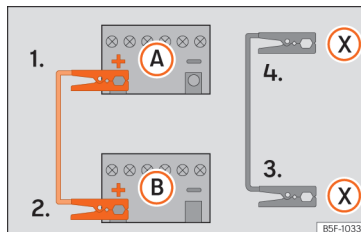

Fig.79 Diagram of connections for vehicles with Start-Stop system.
- 4b. *In vehicles with a Start-stop system:* connect one end of the *black* jump lead (X) to a suitable ground terminal, to a solid piece of metal in the engine block, or to the engine block itself » Fig. 79.
5. Connect the other end of the *black* jump lead (X) to a solid metal component bolted to the engine block or to the engine block itself of the vehicle with the flat battery. Do not connect it to a point near the battery (A).